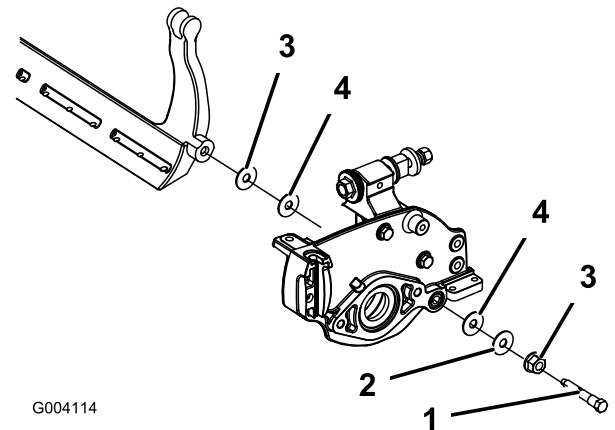

Figure 59
4. Remove each bedbar bolt allowing bedbar to be pulled downward and removed from machine. Account for 2 nylon and 2 stamped steel washers on each end of bedbar (Figure 59).